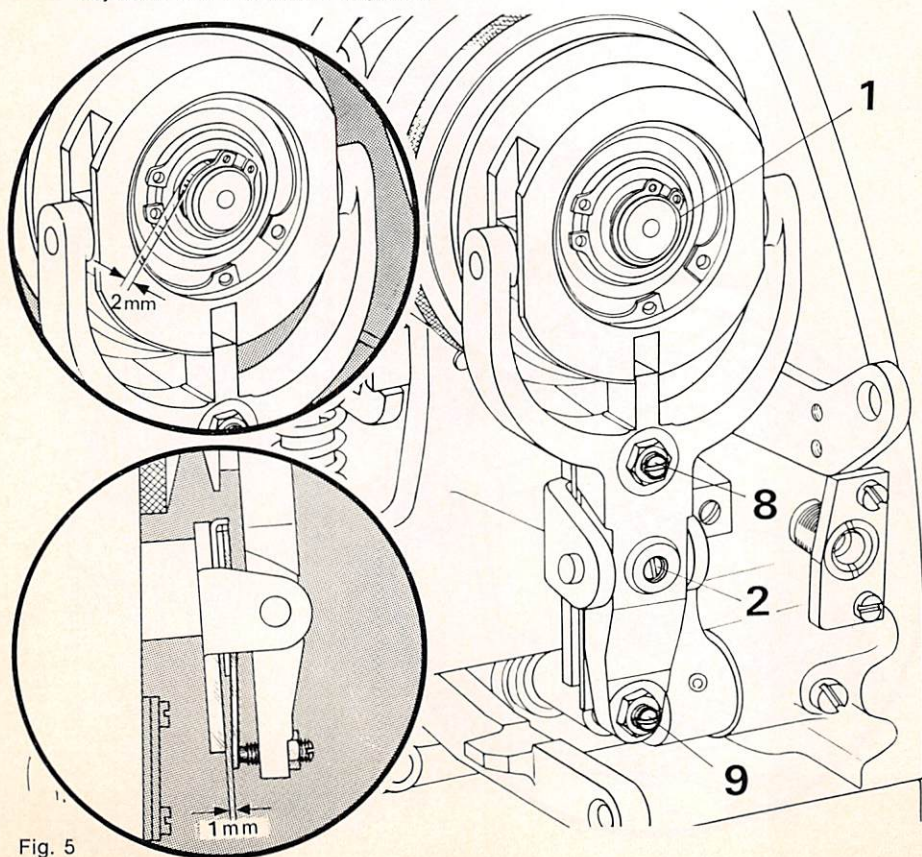

Fig. 5
**5. Adjusting the forked clutch lever (Fig. 5)**
- 5.6. While lightly pushing against the V-belt pulley, turn screw **8** in until there is a clearance of 2 mm (0.08") between the collar of the V-belt pulley and the circlip on the arm shaft (see upper encircled view in Fig. 5).
- 5.9. Turn screw **9** in until the clearance between the leaf spring and the bracket underneath is 1 mm (0.04"), as illustrated in the lower encircled view in Fig. 5.